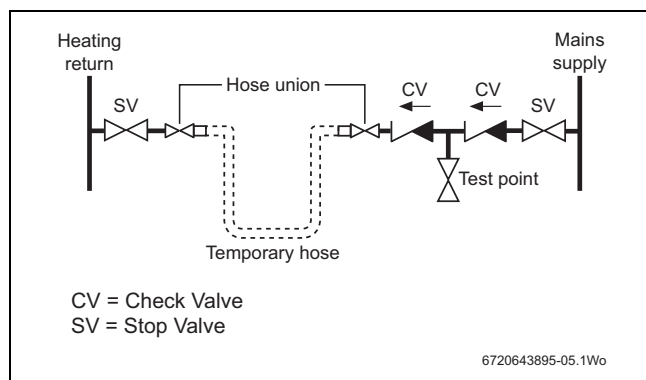

Fig. 5 System fill
- The CH sealed system must be filled using a WRAS approved filling loop or comply with figure 5 for system fill, for Worcester filling loops kit see section 4.7.